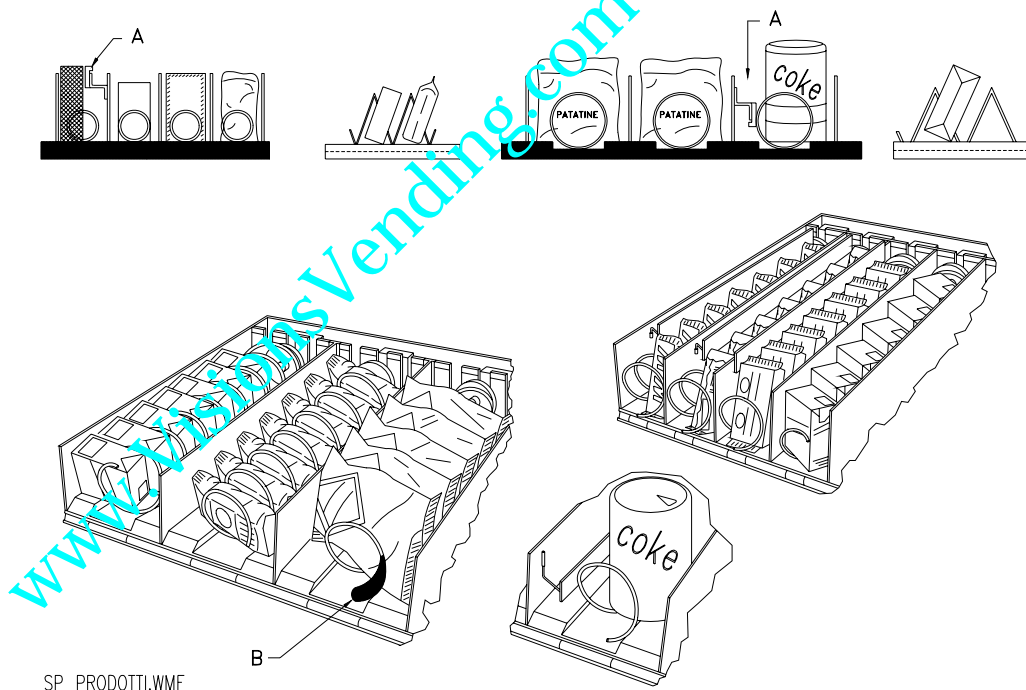

FIG. 4
7.1 CARGA PRODUCTOS EN LA ZONA CAJONES (FIG. 4)
7.2 DISTANCIADORES DE PRODUCTOS EN CAJONES (FIG. 4)
7.3 EXPULSOR DE PRODUCTOS (FIG. 4)